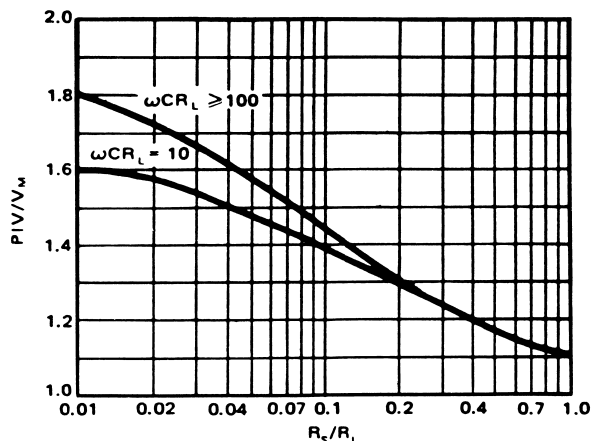

FIGURE 8.8. Ratio of Operating Peak Inverse Voltage to Peak Applied AC for Rectifiers Used in Capacitor-Input, Single-Phase, Filter Circuits
- d) Find required diode PIV rating from Figure 8.8. Actually, required PIV may be considerably more than the value thus obtained due to noise spikes on the line. See Section 8.7 for details on transient protection. Remember that the PIV for the diodes in the FWB configuration are one-half that of diodes as found in FWCT or HW rectifier circuits.
Often the PIV rating of the rectifier diodes must be considerably greater than the minimum value determined from Figure 8.8. This is due to the likely presence of high-voltage transients on the line. These transients may be as high as 400 V on a 115 V line. The transients are a result of switching inductive loads on the power line. Such loads could be motors, transformers, or could even be caused by SCR lamp dimmers or switching-type voltage regulators, or the reverse recovery transients in rectifying diodes. As the transients appearing on the transformer primary are coupled to the secondary, the rectifier diodes may see rather high peak voltages. A simple method of protecting against these transients is to use diodes with very high PIV. However, high-current diodes with very high PIV ratings can be expensive.